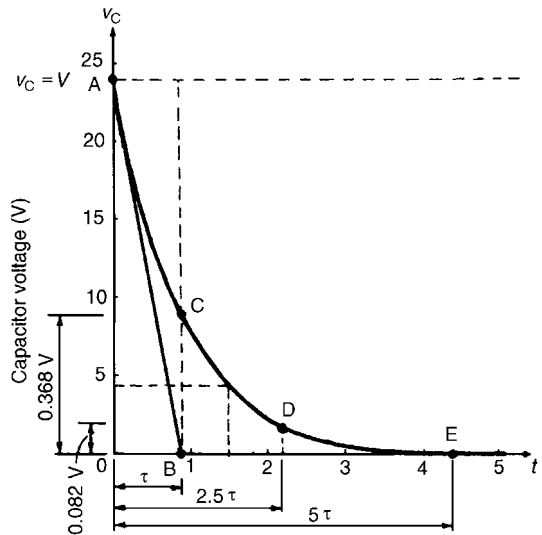

Figure 18.5
- (a) The exponential decay of capacitor voltage is from 24 V to 0 V in a time equal to five time constants, i.e. $5 \times 0.88 = 4.4$ s. With reference to Fig. 18.5, to construct the decay curve:
- (vi) the value of the transient after a time equal to two and a half time constants is 0.082 of the initial value, i.e. $0.082 \times 24 = 1.97$ V, shown as point D in Fig. 18.5,
- (b) The voltage drop across the resistor is equal to the capacitor voltage when a capacitor is discharging through a resistor, thus the resistor voltage/time characteristic is identical to that shown in Fig. 18.5. Since $v_R = v_C$, then at 1.5 seconds after decay has started, $v_R \approx 4.4$ V (see (vii) above).